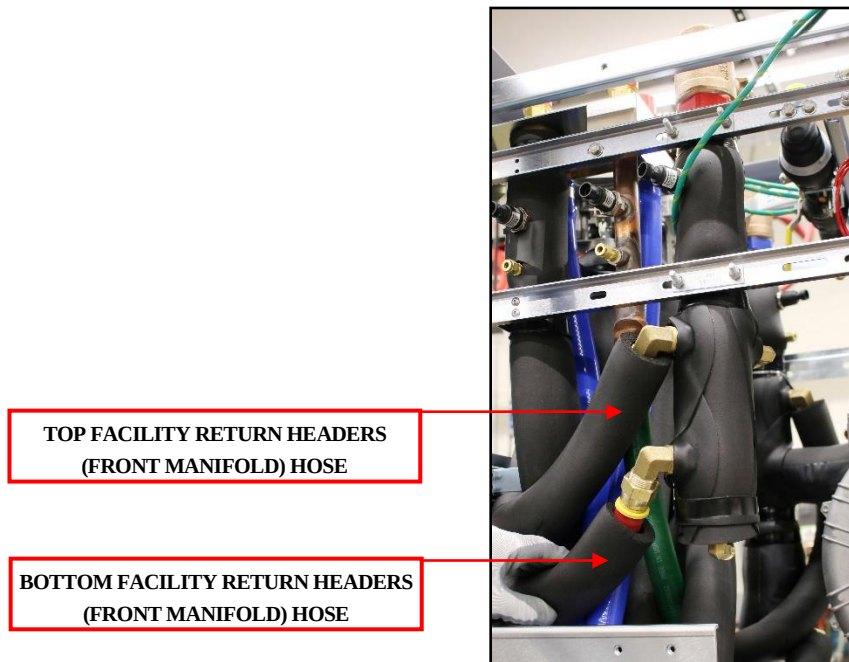

Figure 14. GC & PE Mixing Valve Port 'AB' to Facility Return Manifold
- b. Using a 3/4" wrench and an adjustable wrench for support, loosen and remove hose connection going to the Facility Return Header (for red PE hose & red GC). See Figure 14 below.